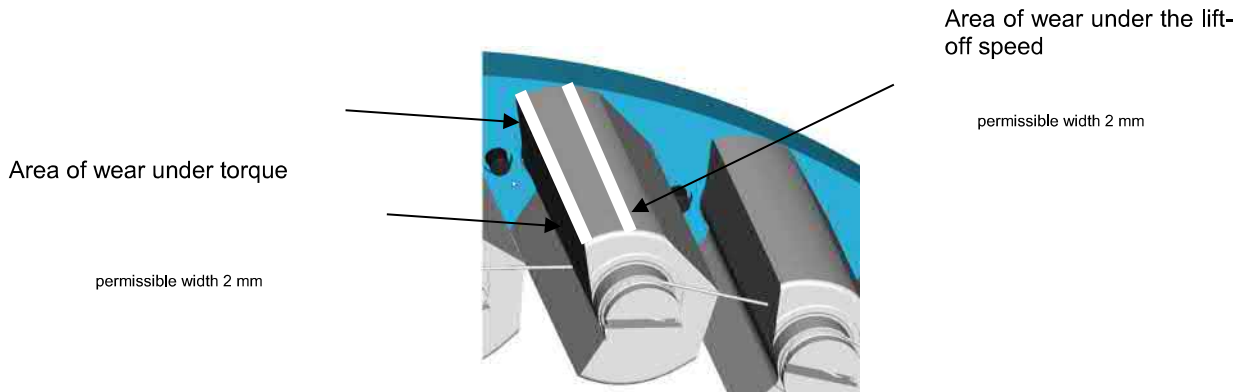

Figure 8: wear zones
- Pre-clean the outer race (1) and cage (8) with a petroleum-based industrial cleaning agent and degrease with an acetone-based cleaning agent
- Maximum width of the wear facet on the clamp bodies (see Figure 8)